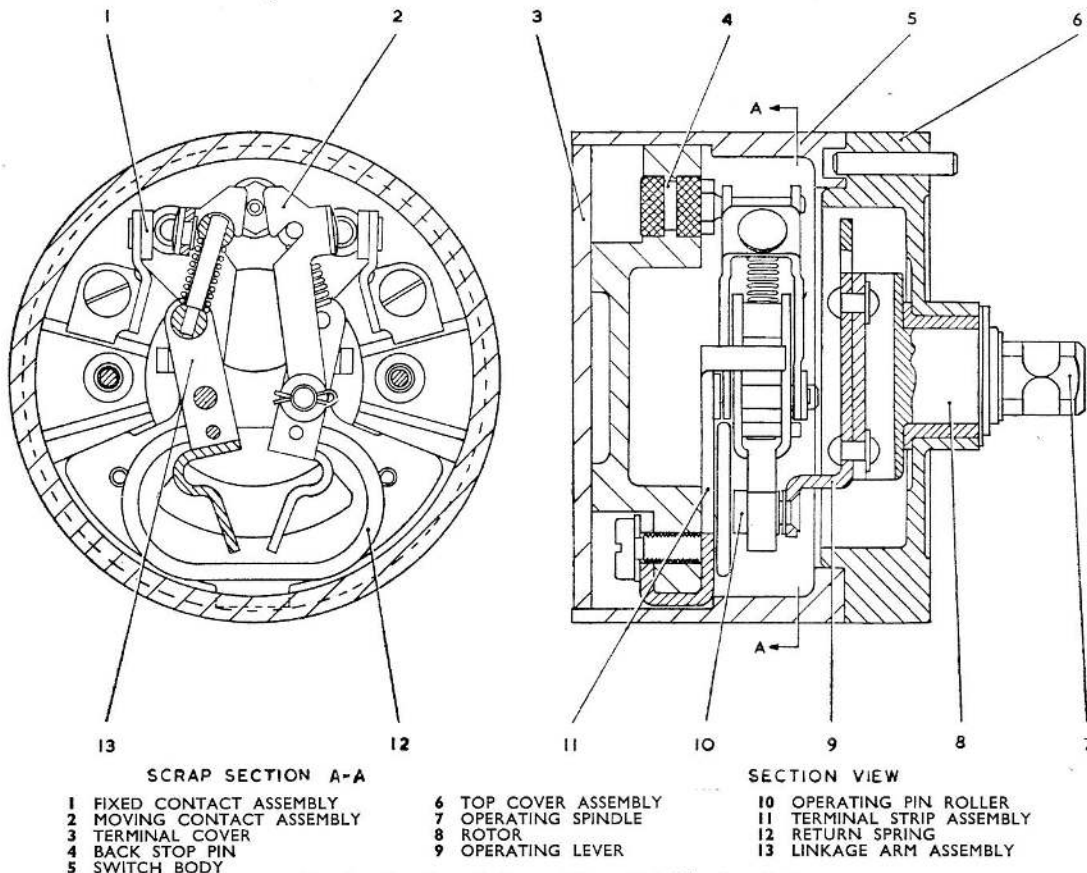

Fig. 1. Sectioned view of Type 2B, No. 2 switch
2. The unit comprises a cylindrical body 1.483 in. in length and 2.5 in. in diameter. On the base of the switch there are three terminals, No. 1 terminal being common to the two moving contacts of the switch. The switch (*fig. 1*) is operated by a rotor assembly comprising an operating spindle, rotor and lever. The operating spindle is secured to the rotor and protrudes through the top cover of the switch. Four grooves are machined on the periphery of the spindle to facilitate the fitting of an attachment for mechanical or manual operation.